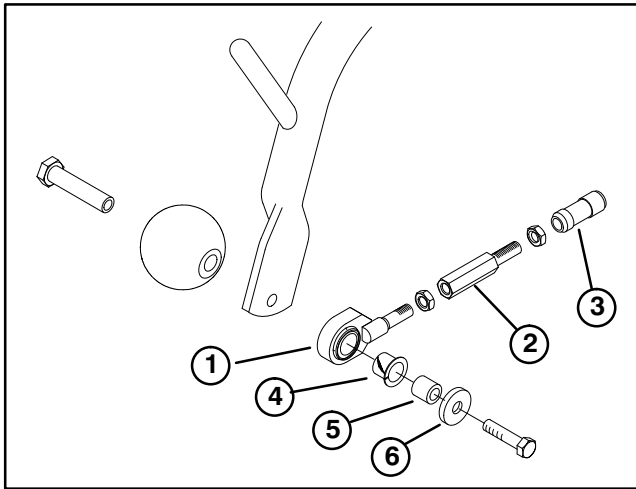

Figure 7
MOUNT FRONT ROLLERS (Fig. 7)
1. Mount a anti-scalp roller and a pull link assembly to outer end of each front carrier frame with a roller shaft, spacer, washer and capscrew (Fig. 7). Make sure nylon bushing is in pull link.